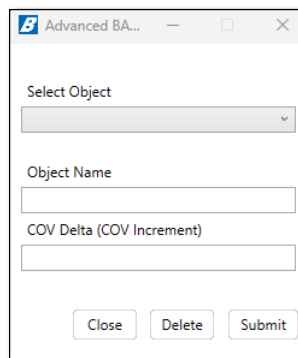
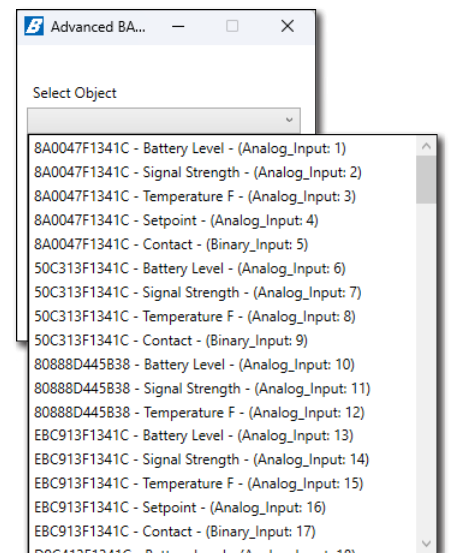

Fig. 2: Advanced Options Window
Fig. 3: Select Object Dropdown
5. Click Advanced Options to open the Advanced Options window (Fig 2). Click the Select Object Dropdown to choose one of the available objects for that sensor (Fig 3). Edit the Object Name and Change of Value Delta fields if desired. Click Submit to save your changes to the sensor before selecting the next sensor. Select Delete option to remove any objects.